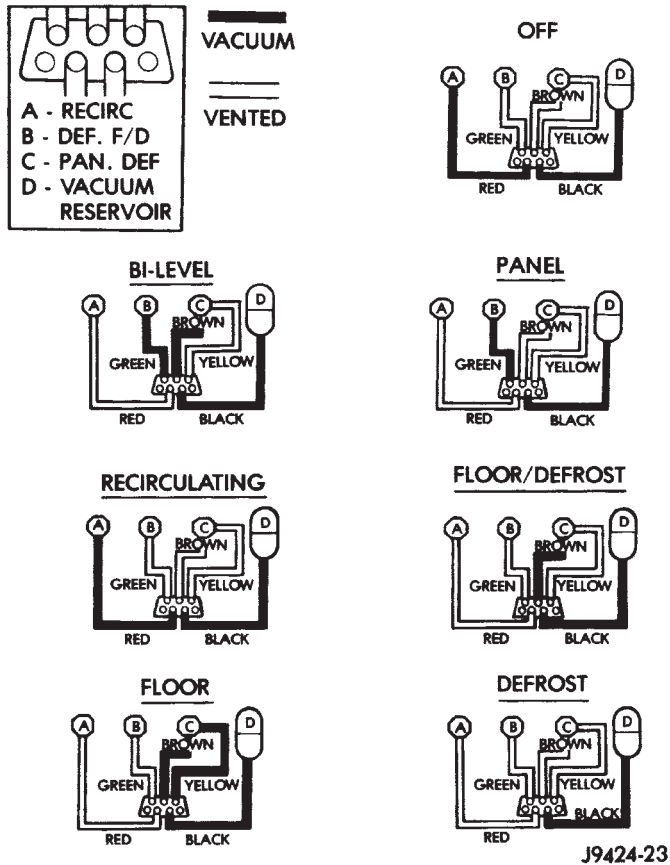

Fig. 9 Vacuum Circuits
(3) Determine the vacuum line color of the vacuum circuit that is leaking. To determine the vacuum line colors, refer to the Vacuum Circuits chart (Fig. 9).
(4) Disconnect and plug the vacuum line from the component (fitting, actuator, valve, switch, or reservoir) on the other end of the leaking circuit. Instrument panel disassembly or removal may be necessary to gain access to some components.
(5) Connect the test set hose or probe to the open end of the leaking circuit. The test set gauge should return to the 27 kPa (8 in. Hg.) setting shortly after each connection is made. If OK, replace the faulty disconnected component. If not OK, go to Step 6.